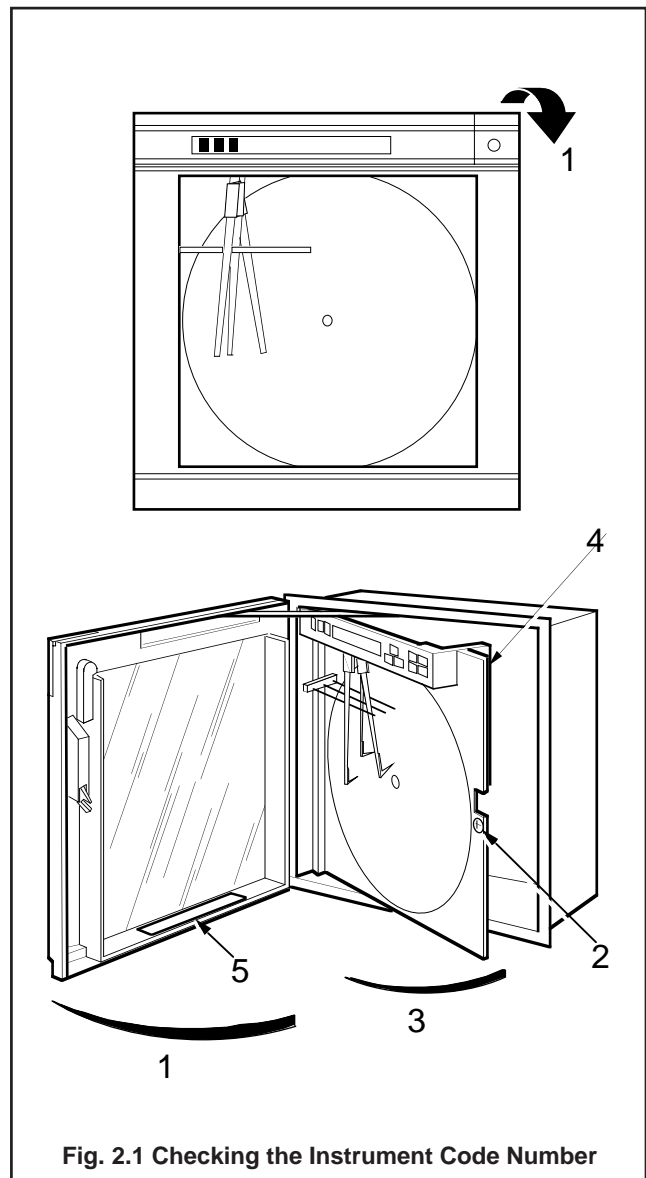

Fig. 2.1 Checking the Instrument Code Number
2.2 Checking the Instrument Code Number – Fig. 2.1
Unlock and open the door, release the chassis and swing it forward – see Fig. 2.1 on page 2.